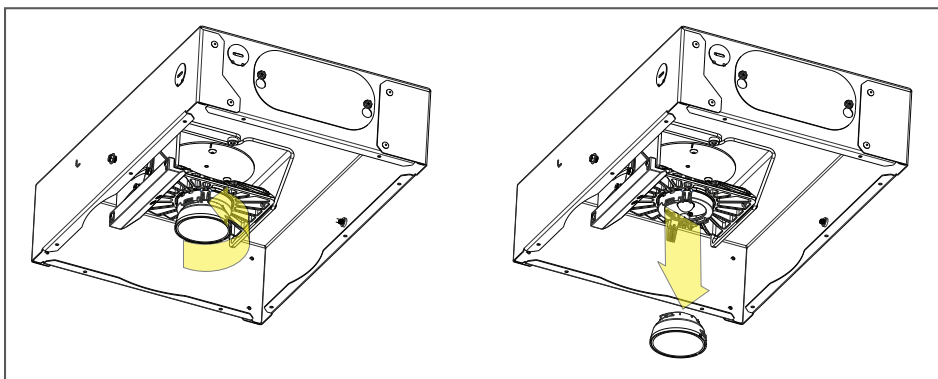

fig. 26
2. By hand or with the suction tool (PU0950), gently twist counterclockwise to un-snap the optic and remove it from the D2 housing (see fig 26).